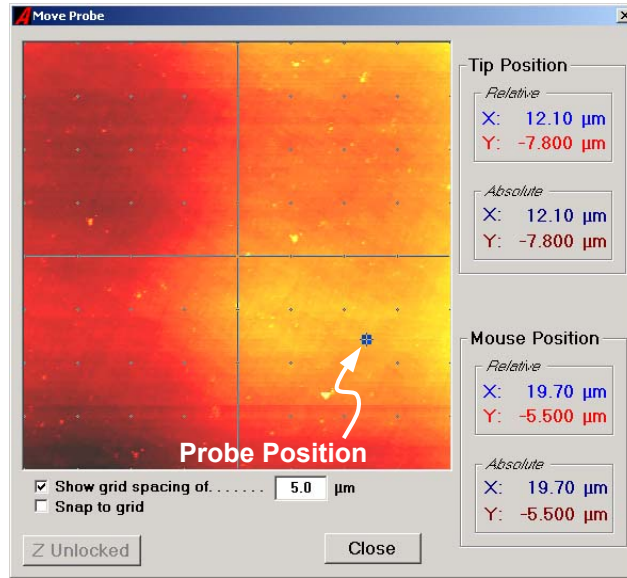

Figure 10-12 The Move Probe window.
- The current position of the probe is indicated with the square fiducial mark shown in Figure 10-12. (Except, of course, if the probe position falls outside of the image area. Then the fiducial will not appear.)